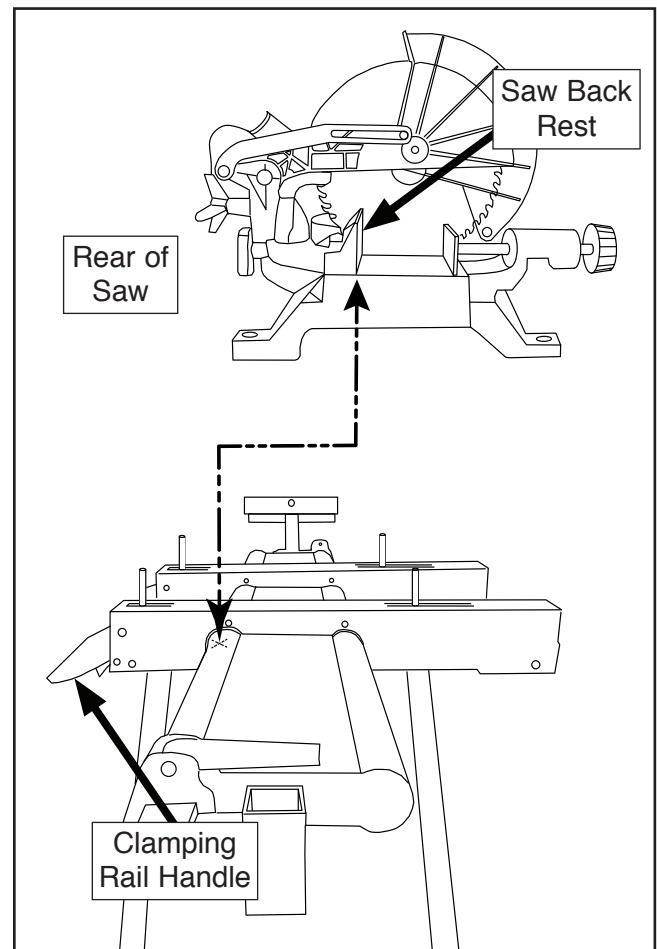

Figure 17. Miter saw and table alignment.
1. Position clamping rails on table so handles are on rear of miter saw, and weight of saw is centered in middle of table (see **Figure 17**).